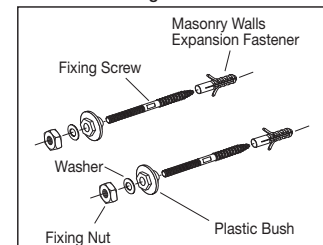

Fig. 3
- 3- Insert Expansion Fasteners into the drilled holes in masonry wall. The Fixing Screws should be screwed into the wall using the flat section of the Fixing Screw with a spanner as shown in **Fig. 3**. Allow 48 mm of thread to protrude from the finished wall.